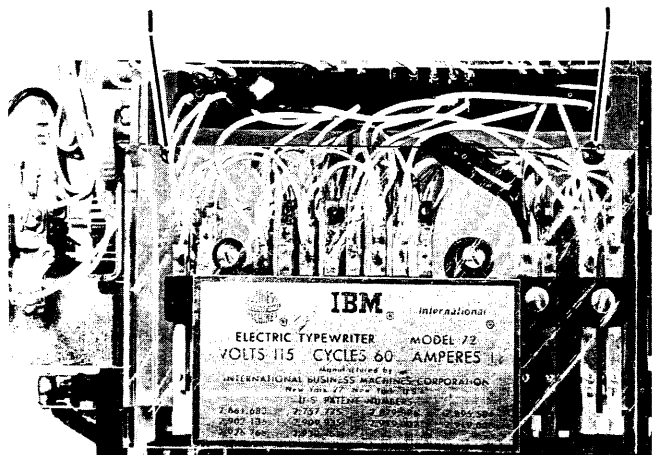

FIGURE 7. Belt Replacement
- * 6. Remove the two screws (#1, Figure 7) that hold the plate to the frame. Remove the contact assembly, holding it to the front with a rubber band.